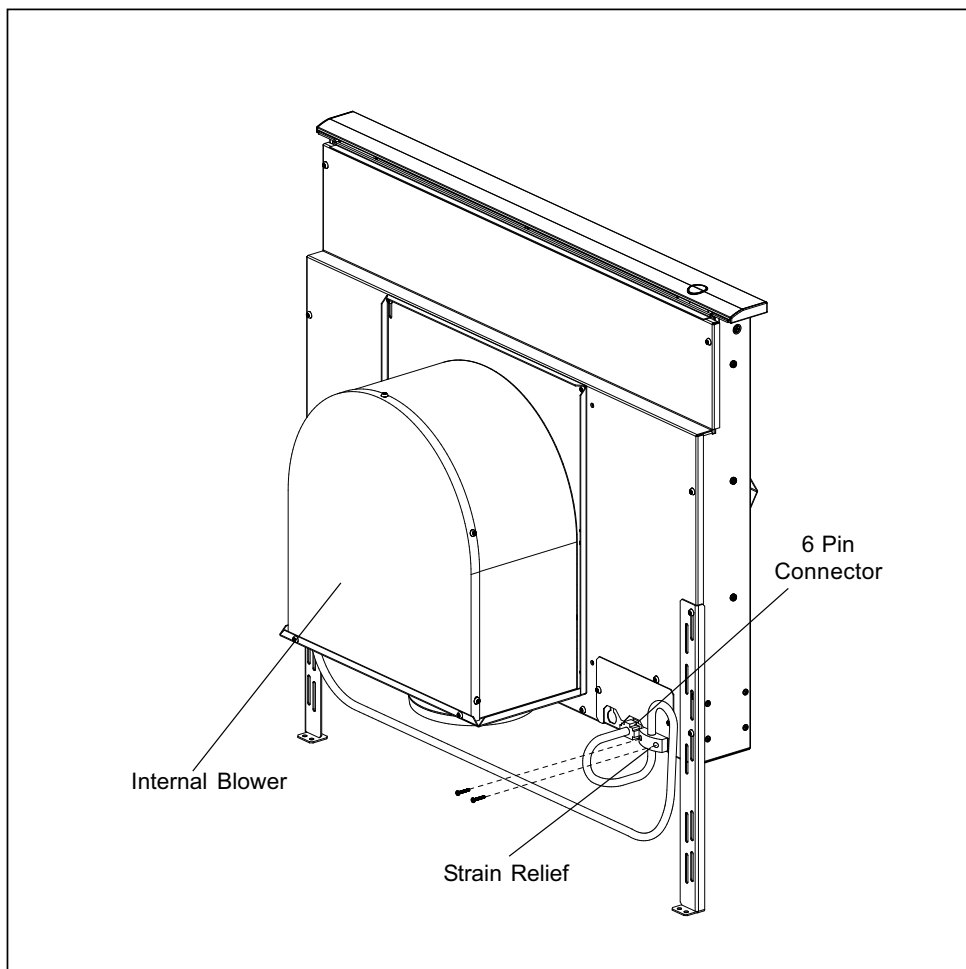

Fig. 10 – Internal Blower
Integral Blower VTN600CV2C (see Figures 10 and 12 for further detail):
- A. Remove junction box cover and connect conduit with 5 wires from remote blower. Hook up wires per Wiring Diagramm. Fig. 10. Replace junction box cover.